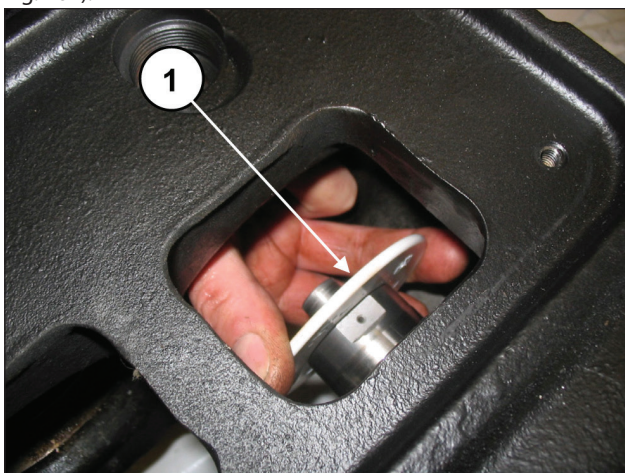

Fig. 161
Slip the spray-guard rings off the piston heads (pos. ①, Fig. 161).